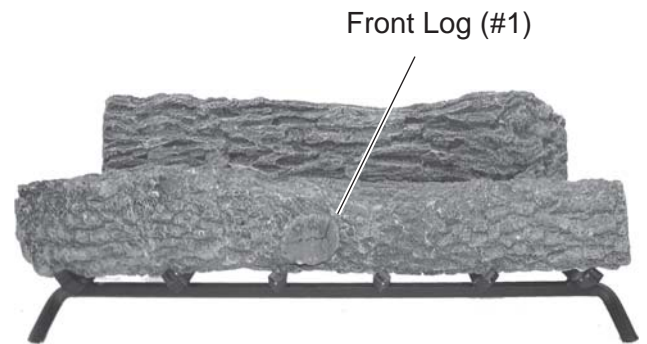

Figure 59 - Placing Front Log (#2) on Front Grate
2. Place Front Log #1 on front of grate. *See Figure 59.*